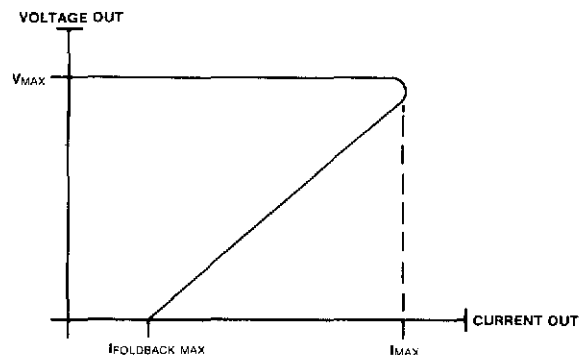

Figure 6A-3. Foldback Current Limiting
**6A-20. PWM CURRENT LIMITING.** This power supply uses fold-back current limiting (figure 6A-3). The actual current limit value is determined by sensing the DC voltage developed across the internal resistance of T6 pins 2,11 and 3,10 (T6 contains six internal inductors). Current limiting of the -5.2V supply works by developing a voltage across C20 that is equivalent to the maximum load current times the internal resistance of T6 pins 2,11 and 3,10. The voltage across C20 is then compared to the reference voltage at pin 15 of U5. The foldback of the maximum current limit value is determined by the decrease in the voltage across R17. When the voltage across R17 decreases, the voltage required across C20 also decreases. The decrease across C20 causes the PWM's internal comparator to go more positive and reduce modulation until the -5.2 output voltage across R16 increases, allowing C20 to charge to the value of the reference voltage.